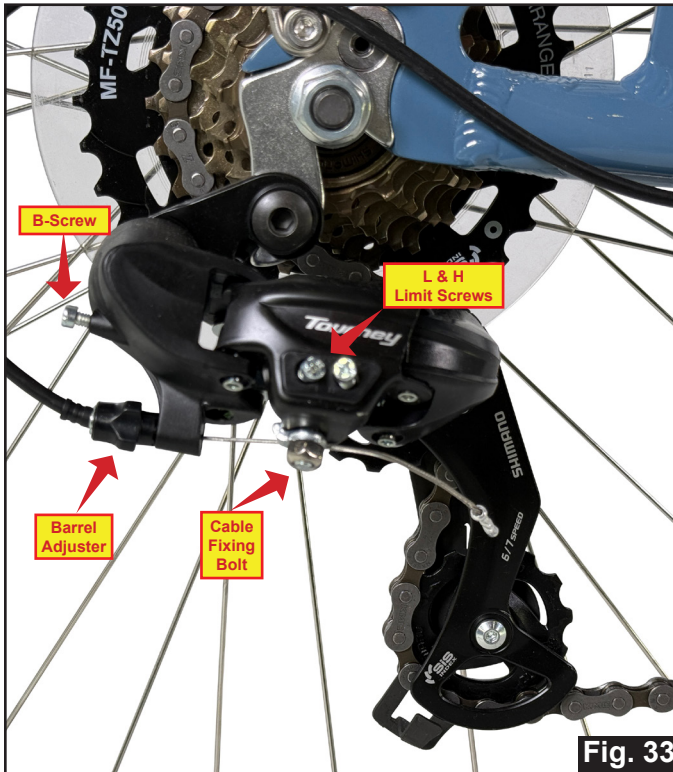

Fig. 33
- Pre-adjusted gears may be affected during shipping, unboxing, and assembly. Elevate the bicycle and shift through all gears to confirm proper operation. See adjustments (Fig. 33).